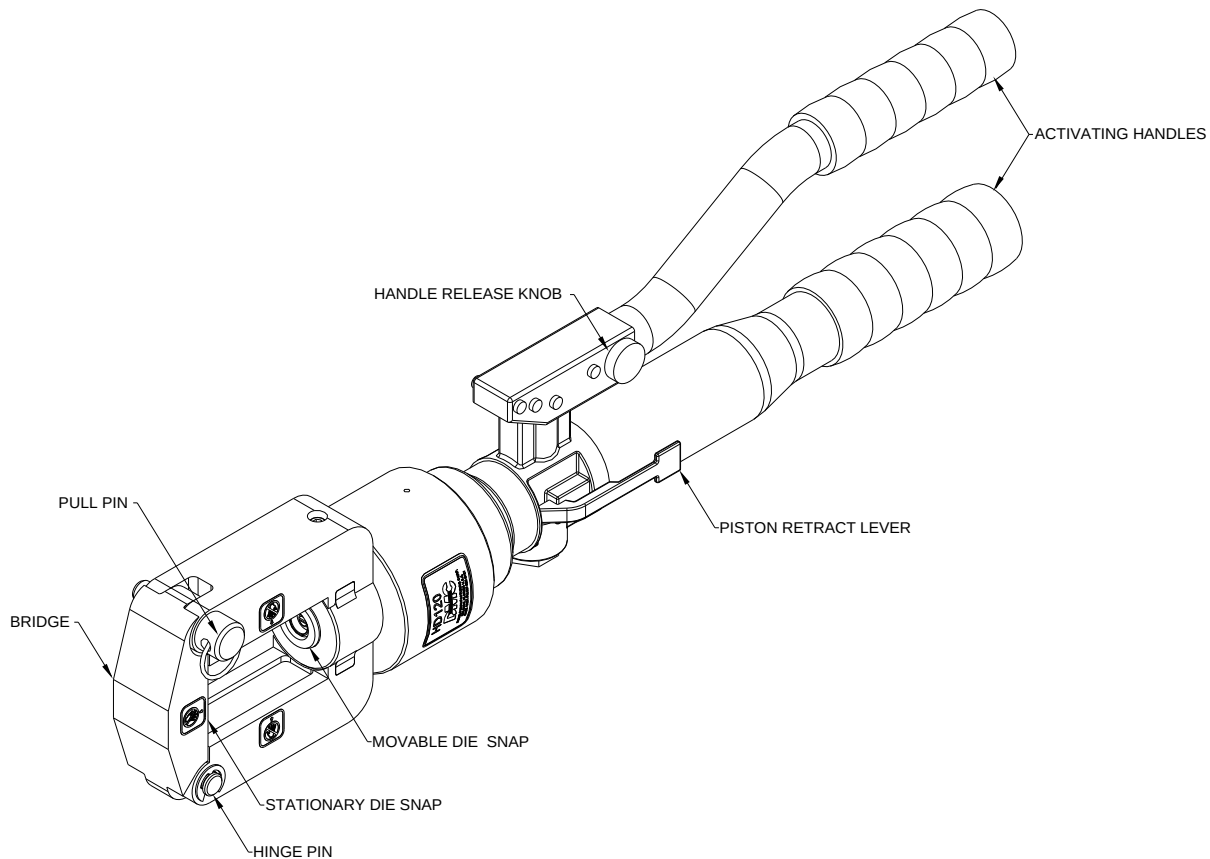

Figure 1
1. Remove the pull pin to swing the bridge open on the crimp head. See Figure 1